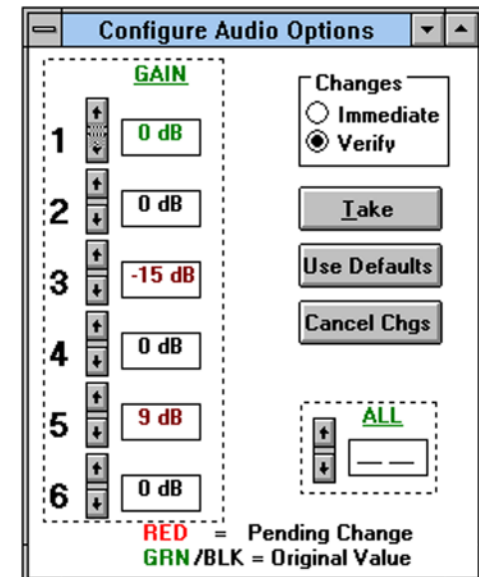

Figure 4-4 — Configure Audio Option window
- From the drop-down menu, select Audio Inputs to display the Configure Audio Options window (see figure 4-4).